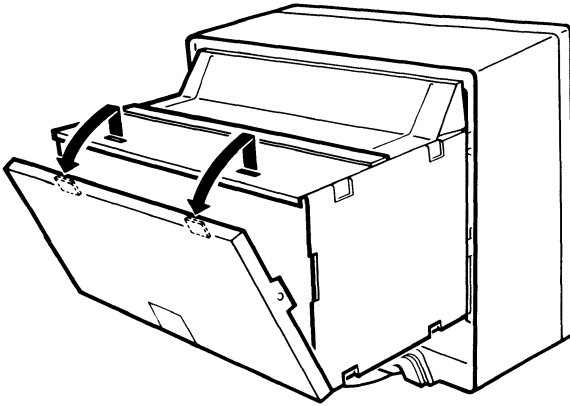

Figure 5-6. Opening the Safety Cover
4. Remove the safety cover by removing the screws (marked B, see Figure 5-6 on page 5-22) and lifting off the cover.